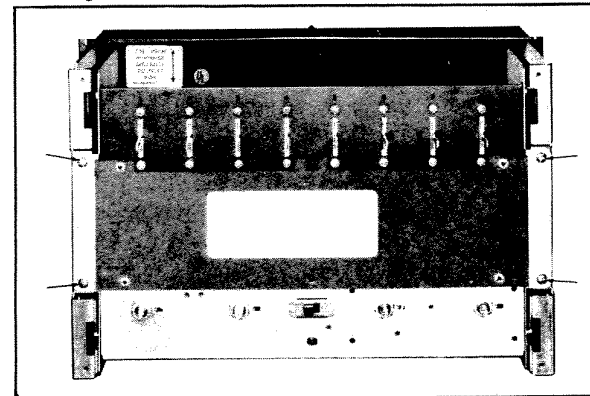

Fig. 6. Secure Chassis to Rough-in Box.
4. Remove the four brass screws from the front of the unit. (See Fig. 6.)
5. Remove the six dot fasteners to release the front amplifier insulator (cardboard). (See Fig. 6.)
After all speaker wires have been connected, push the chassis into the rough-in box. Fasten in place with screws through mounting tabs on side of chassis. (Fig. 6.)